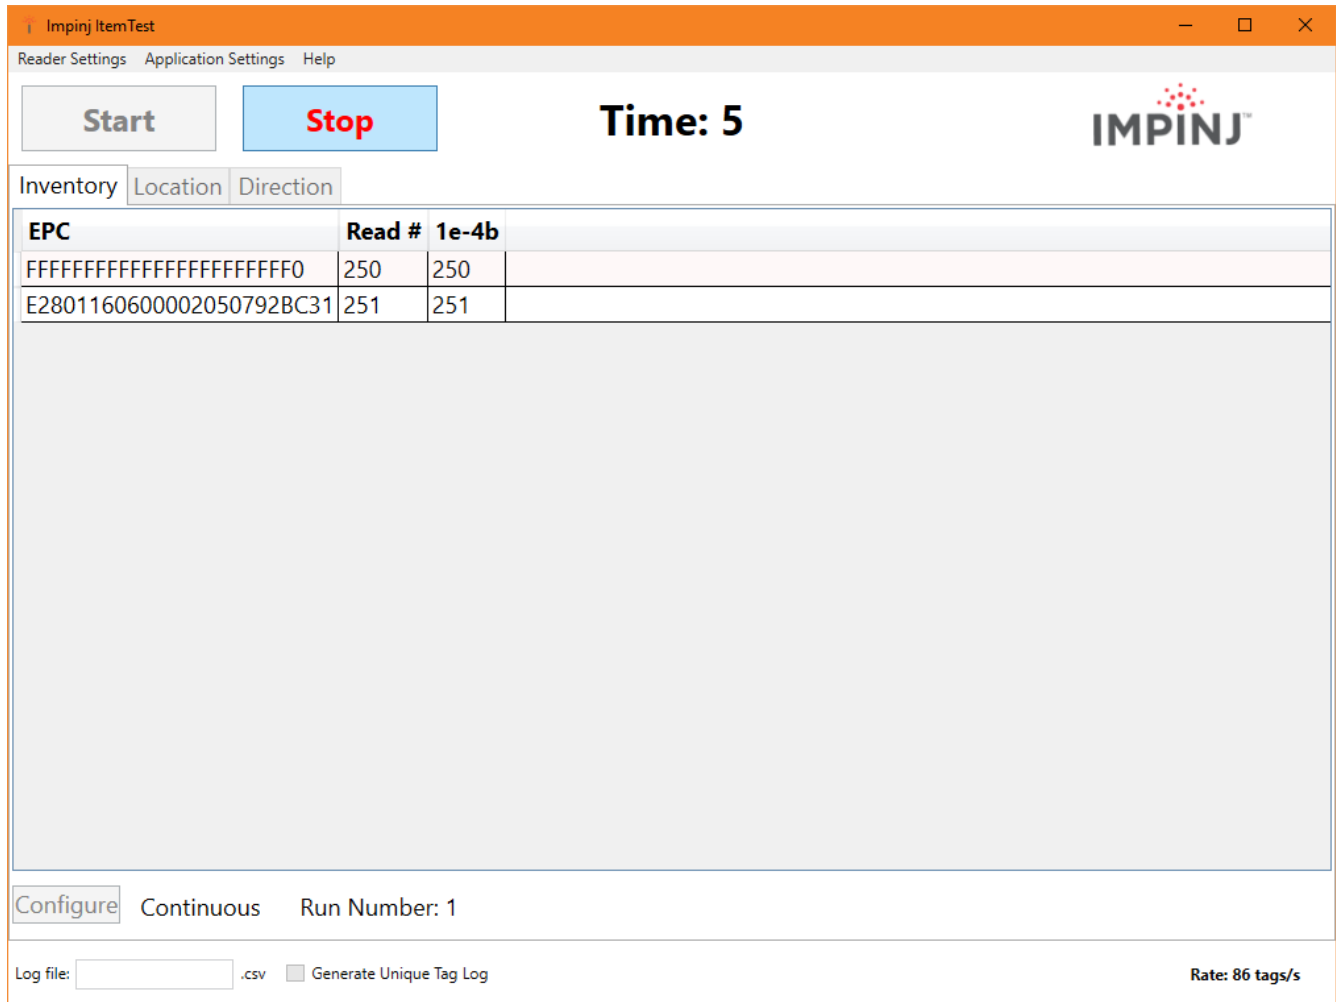

Figure 6.5 ItemTest Tag Inventory Display
14. Test your Reader installation. Place one or more tags in the read-zone of one or more of the attached antennas. On the ItemTest application screen, click **Start**. Tag reads appear under **Inventory**, as shown in Figure 6.5.